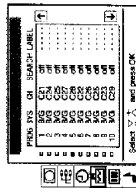

Fig. 19
- Select »Further Programme Preset« with $\Delta+$ or $\nabla-$ and press OK. The FURTHER PROGRAMME PRESET menu appears (See Fig. 19).
- The MANUAL PROGRAMME PRESET menu appears. (See Fig. 19)